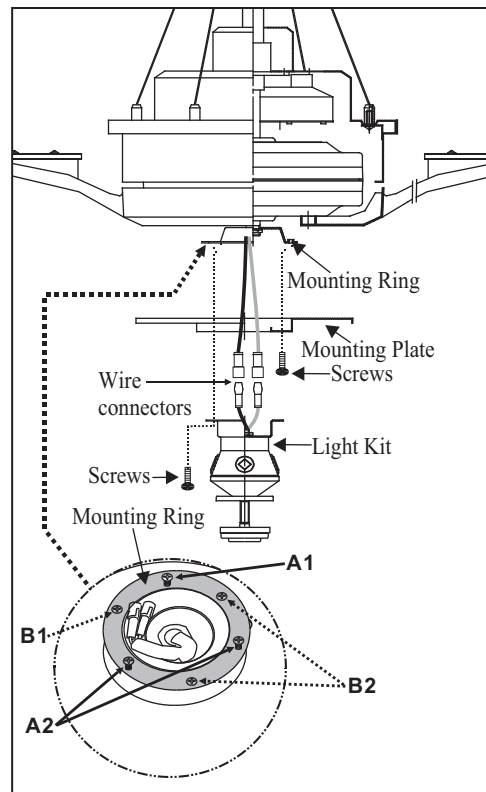

Figure 15
4. Raise and hold the light kit close to the mounting plate and make the wire connections. Connect the white wire connectors from the light kit and fan, follow the same procedure with the black wire connectors. (Fig. 15)
5. Carefully push all wires back into the mounting plate, then install the light kit onto the mounting ring with 3 screws provided. Be sure to tighten all screws. (Fig. 15)